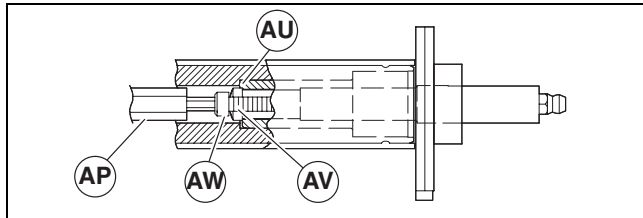

Figure 25
3. Remove retaining clip (BF) and screw (BE).
4. Insert small end of hex key wrench extension tool (Figure 25, item AP) (25-08, part of tool kit 4500) into pulley end opposite outboard drive shaft.
5. Loosen and remove wave washer (Figure 25, item AU), flat washer (AV) and pulley screw (AW) with hex key wrench extension tool (AP).